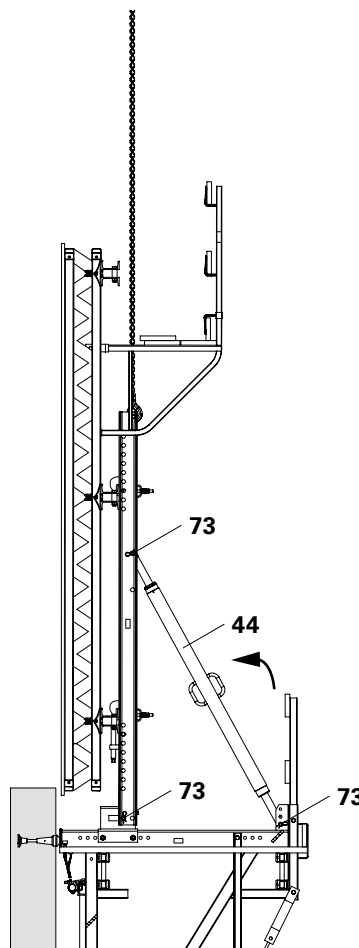

Fig. B2.05c
4. Fix Strongback to the Adjusting Unit CB 160 (16) by means of Bolts $\varnothing 25 \times 180$ (73) and Cotter Pins 4/1. Standard case: use those holes in the Strongback facing the wall. (Fig. B2.05c)
5. Fix Adjustable Brace CB 164-224 (44) to the bracket using Bolts $\varnothing 25 \times 180$ (73) and Cotter Pins 4/1. Spindle out to approximate length and attach to Strongback. (Fig. B2.05c)